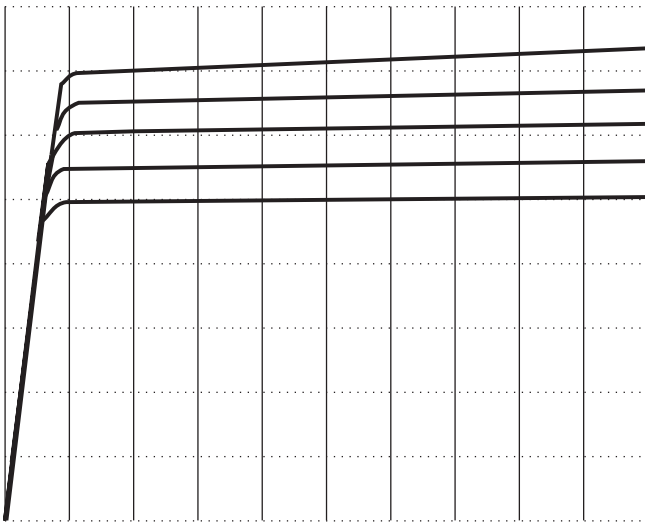

Figure 4
Continuous passing through the ranges from the highest to the lowest is possible if the rotary knob ⑧ is turned counterclockwise. With function MIN activated and turning the rotary knob ⑧ clockwise the bottom curve will be moved from the bottom up (see **Figure 4**).